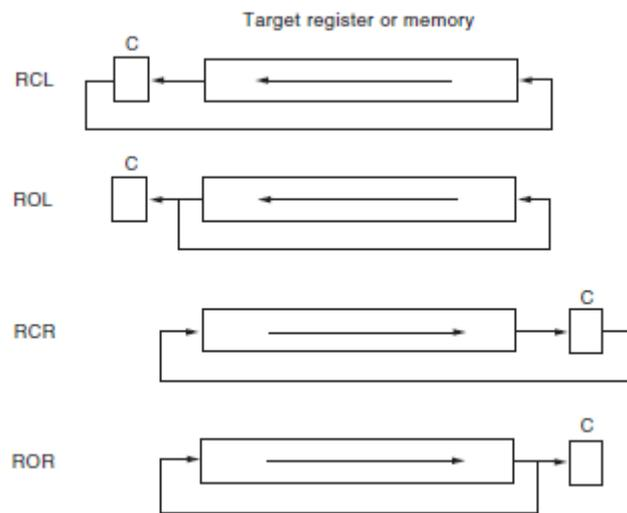

Figure 5-10: The rotate instructions showing the direction and operation of each rotate
- This positions binary-data by rotating the information in a register or memory-location, either from one end to another or through the carry-flag (Figure 5-10).